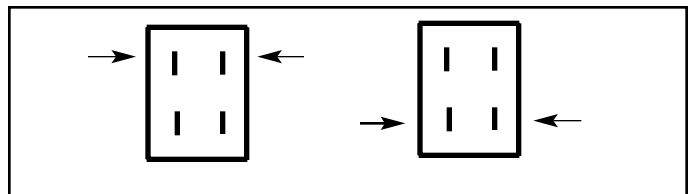

Figure 33. Neutral Safety Switch Testing
5. Touch one probe to each of the top row terminals and then the bottom row terminals as shown in Figure 33. With the ground speed control lever in forward (switch not depressed) both rows should have no continuity.